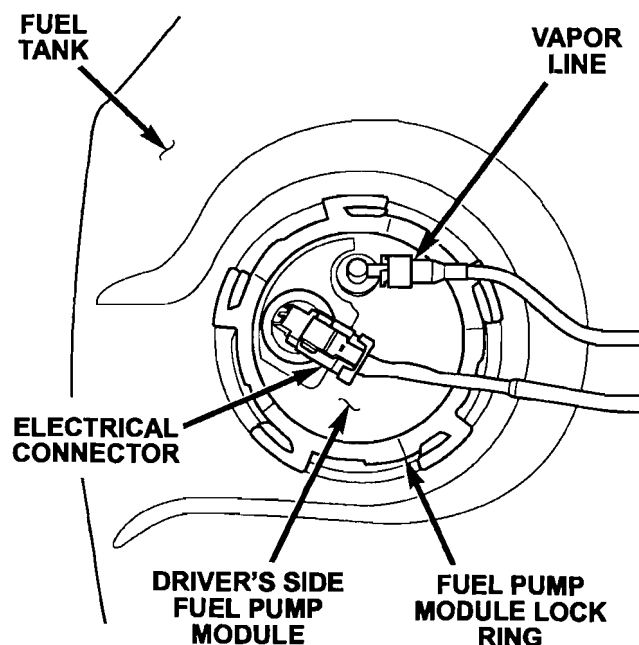

Figure 5
5. Using a vacuum cleaner, remove any debris from the area around the driver's side fuel pump module lock ring (Figure 5).
6. Disconnect the vapor line and the electrical connector on the driver's side fuel pump module (Figure 5).
18. Connect the vapor line and the electrical connector onto the driver's side fuel module (Figure 5).